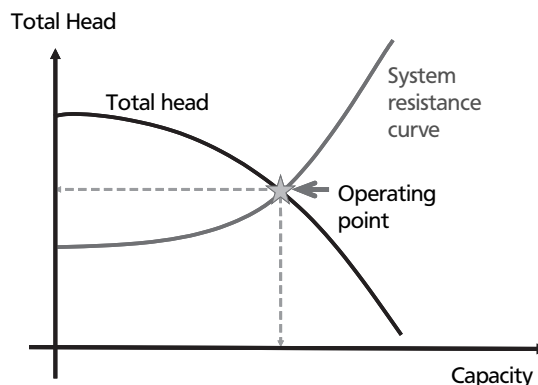

Fig. 2
- **The head is the pressure produced by the pump** in metres of water column. The higher the discharge capacity of the pump, the lower the head (Fig. 2).